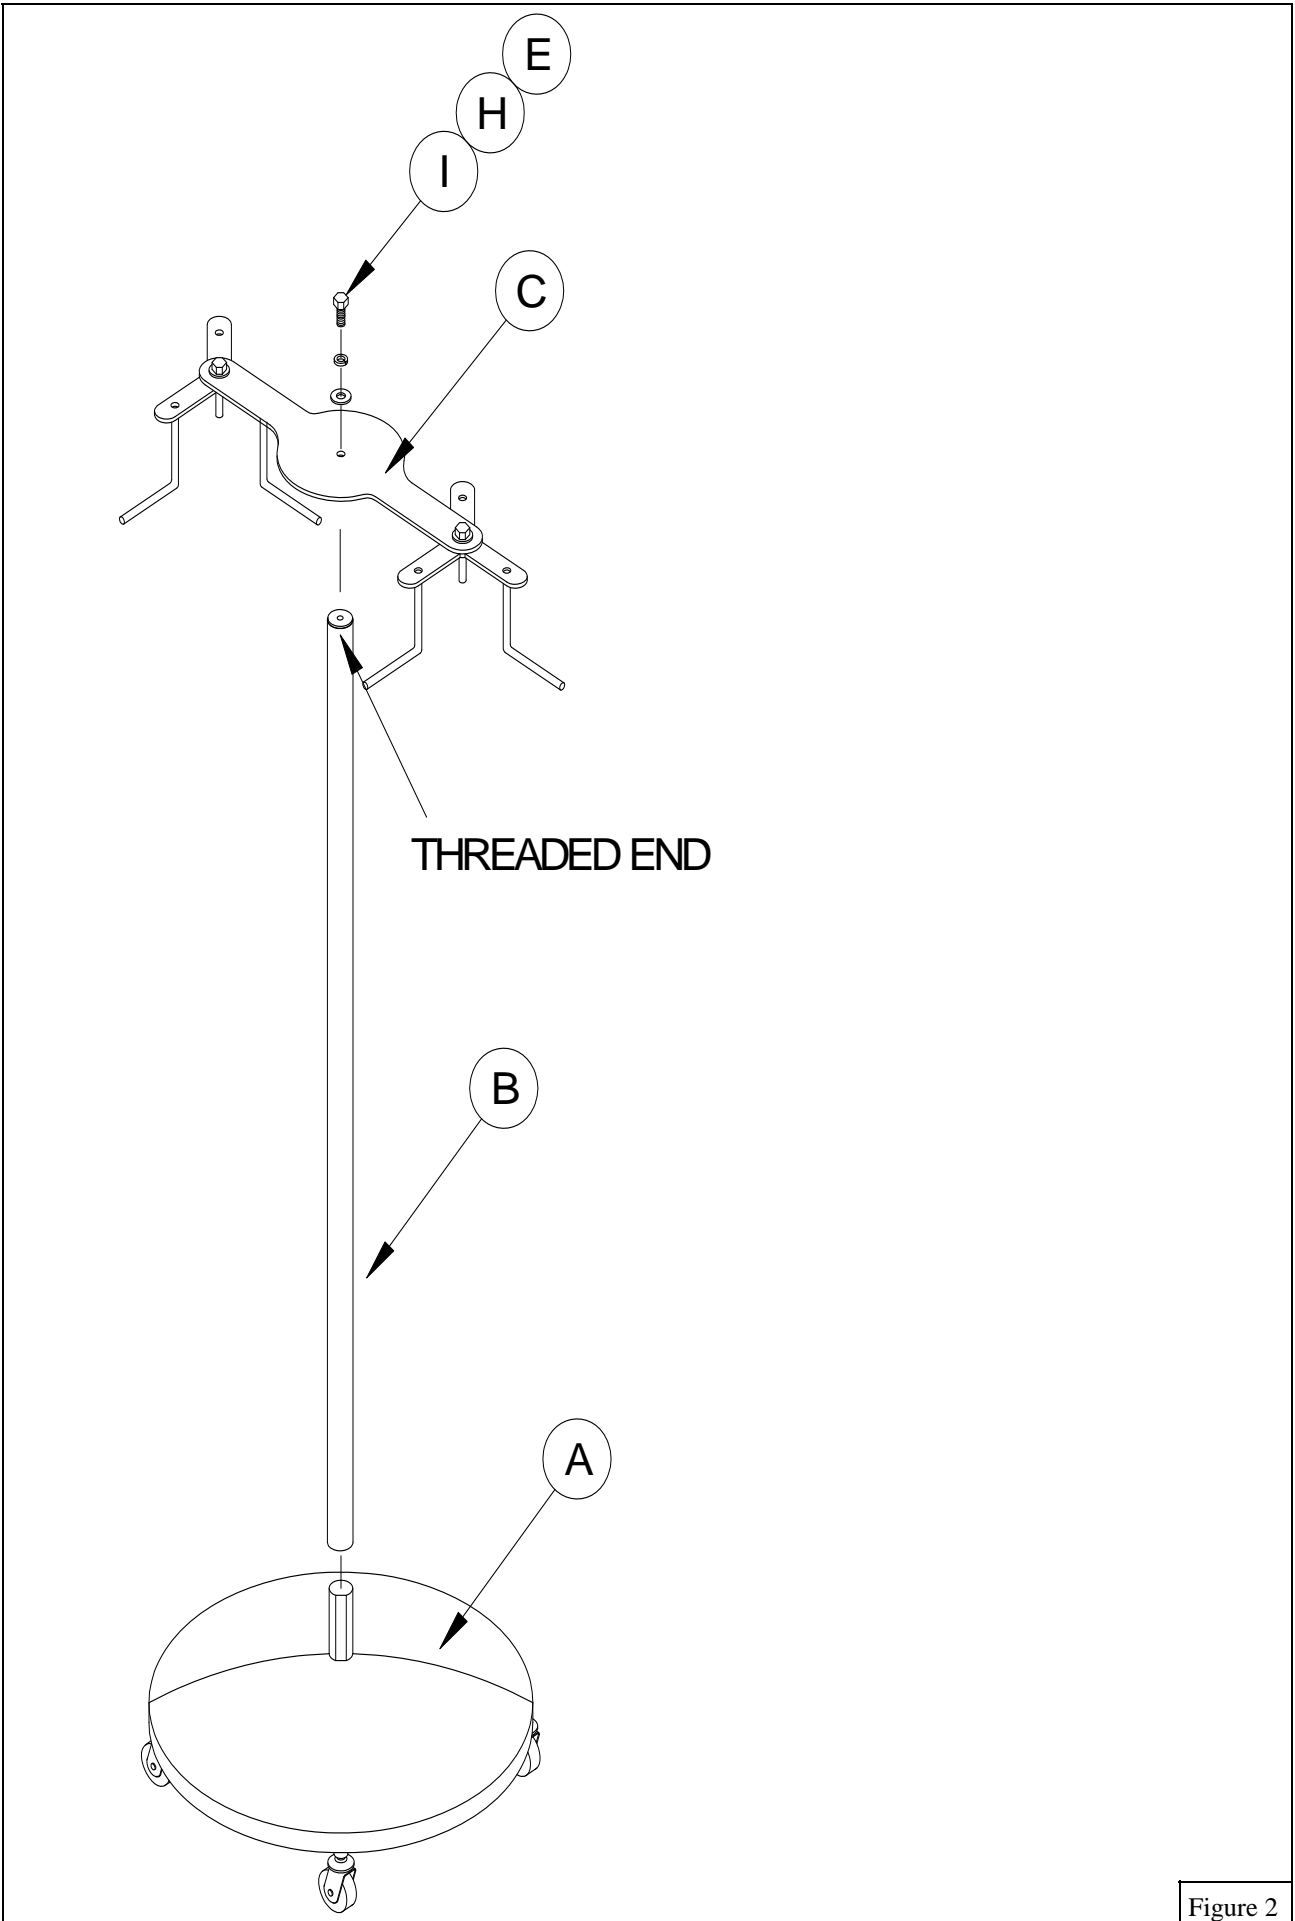

Figure 2
2. Attach the carousel assembly to the threaded end of the Upright Pole (B) using a 1/2" x 1" Hex Bolt (E), 1/2" Lock Washer (H), and a 1/2" Flat Washer (I). See Figure 2.
3. Mount the assem- bled Upright Pole (B) onto the Dome